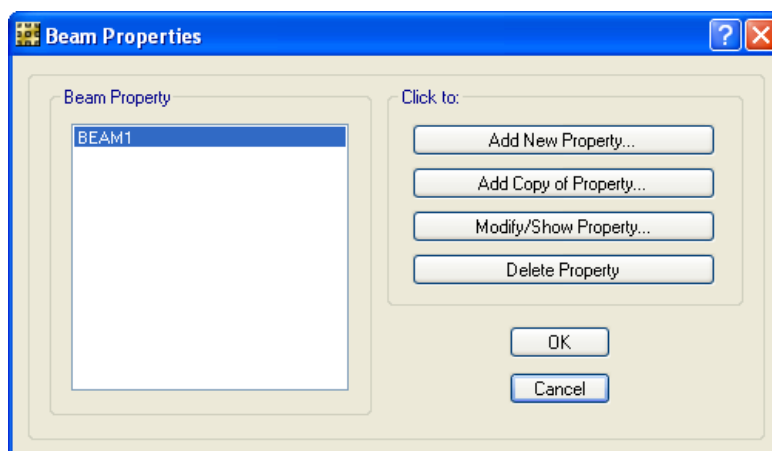

Figure 13 Beam Properties form
- A. Click the **Define menu > Beam Properties** command to access the Beam Properties form shown in Figure 13.